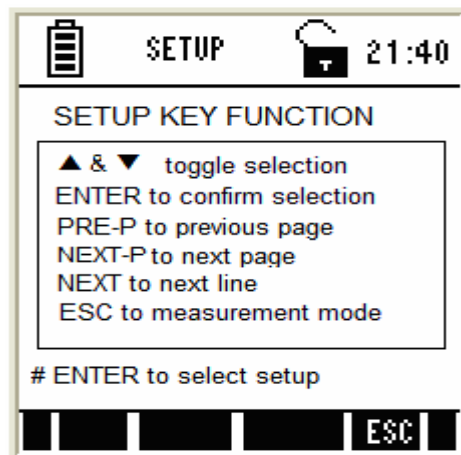

Figure 35: Setup Key Function screen
7. When the correct password is entered, the Setup Key Function Screen appears. (Figure 35)